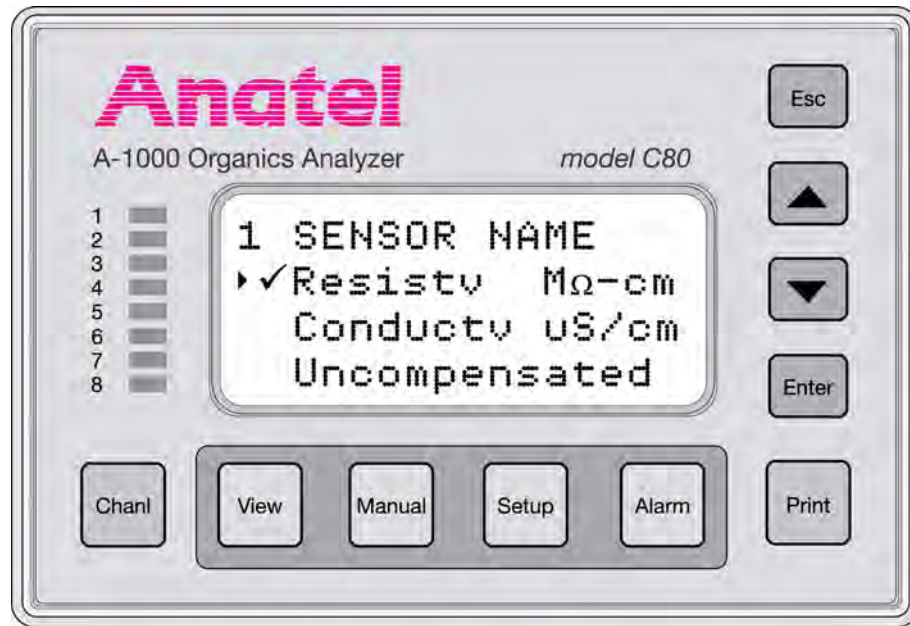

Fig 5-6 : Display Units Screen
- 5) Specify **Resis or Cond** and press **Enter** to show the **Display Units** screen, shown in Figure 5-6.